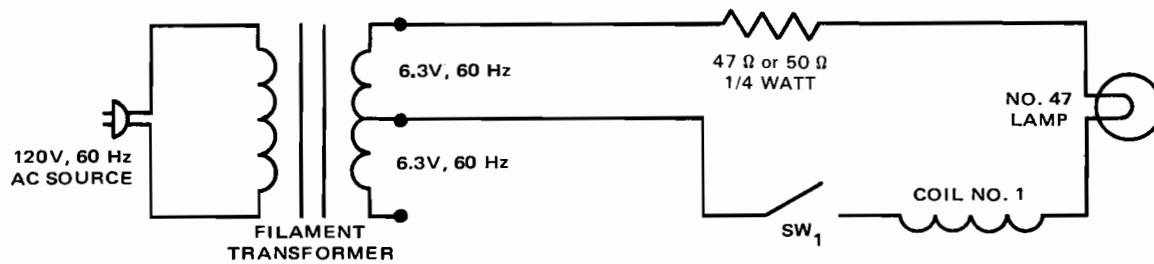

Fig. 9-2-3
6. Turn off circuit switch and add a 47 ohm resistor or a 50 ohm resistor to circuit as shown in Fig. 9-2-3. Obtain a 50 ohm resistor from resistor decade box.
1. If the inductor in Fig. 9-2-3 is approximately 0.38 H, what is the time constant of the RL circuit? _____